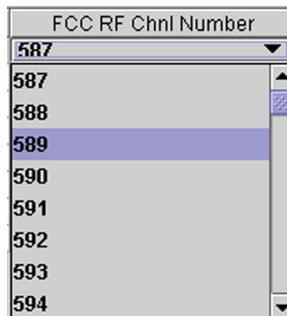

Figure 38. FCC RF Chnl Number (Example)
- Click in the **FCC RF Chnl Number** field and from the pulldown list select an FCC channel number as shown in the example in Figure 38. Based on modulation type, band, and sub-band, EMS will list only available FCC channel numbers.